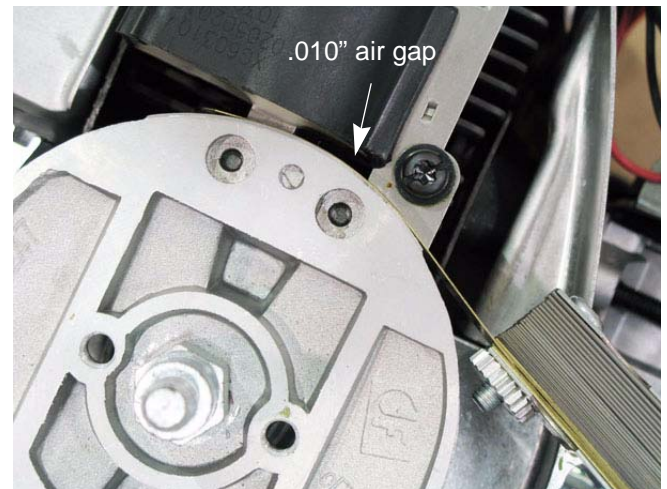

Figure 10.2
- 1e. Place a brass .010" feeler gauge on the flywheel magnets and rotate the flywheel until the magnets line up with the module. Let the magnets draw the module against the flywheel with the feeler gauge trapped between them. See Figure 10.2.